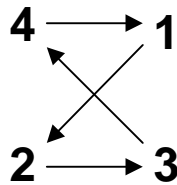

Figure 3-21, Quick Disconnect Downfeed Diagonal Sequence
4. Moving in a diagonal sequence (refer to **Figure 3-21**), tighten each coupling nut to 25 ft-lbs of torque.